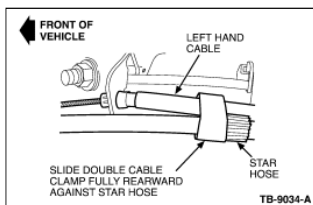

Figure 2 - Article 08-11-1
4. Use a shop towel to clean the sheathing on both parking brake cables where the double cable clamp will be positioned. (Figure 2 - LH side)
5. Spray an even coat of Motorcraft® Silicone Spray Lubricant or equivalent, on the sheathing of both parking brake cables where the double cable clamp will be positioned. (Figure 2)
4. Use a shop towel to clean the sheathing on both parking brake cables where the double cable clamp will be positioned. (Figure 2)
5. Spray an even coat of silicone spray, Motorcraft® Silicone Spray Lubricant or equivalent, on the sheathing of both parking brake cables where the double cable clamp will be positioned. (Figure 2)